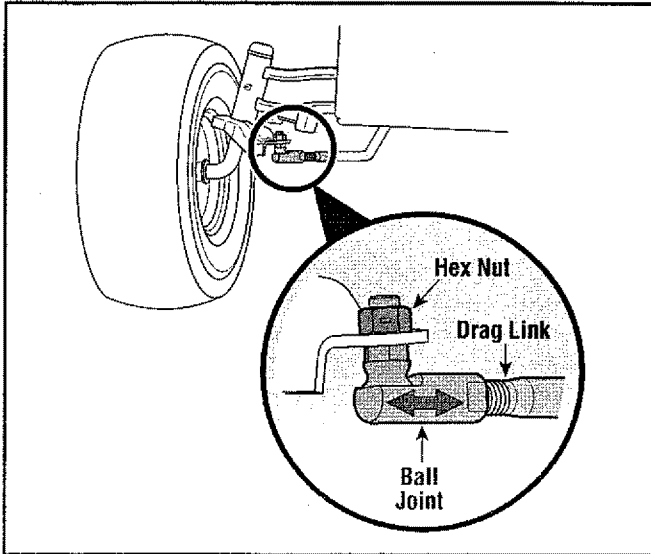

Figure 14
1. Remove the hex nut on the top of ball joint. See Figure 14.